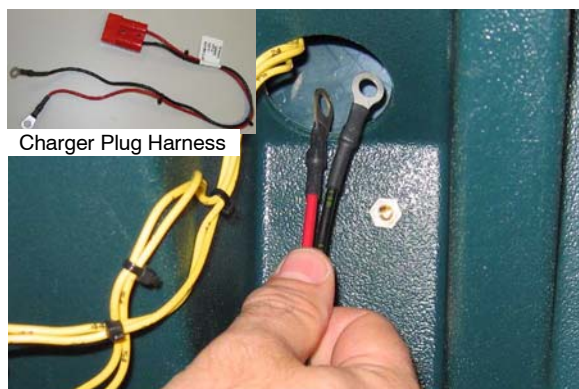

Fig. 13
13. Route the charger plug harness up into the console as shown (Fig. 13).